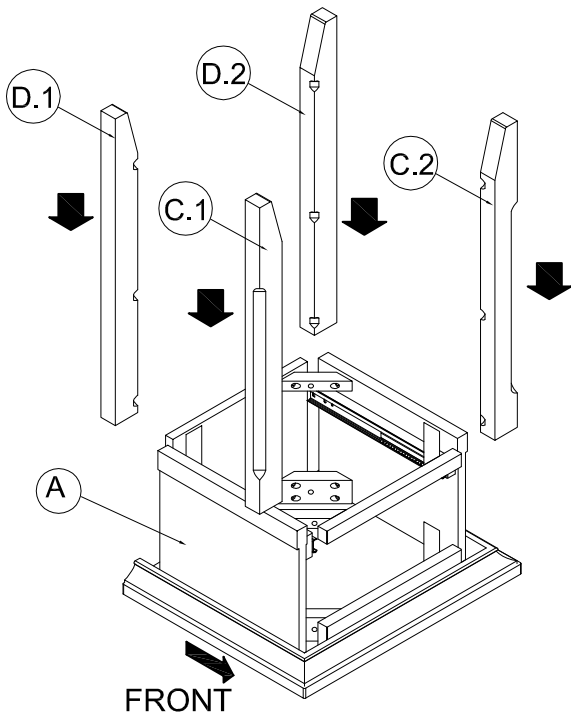

FIG 2.2
- Insert the 8 (eight) Allen bolts 2 1/4" (55 mm) (K) and spring washers (W) first through the holes in the corner blocks, then into the threaded inserts in the legs, as shown in FIG.2.2 & FIG.2.3. Tighten all bolts with the Allen Key (N).